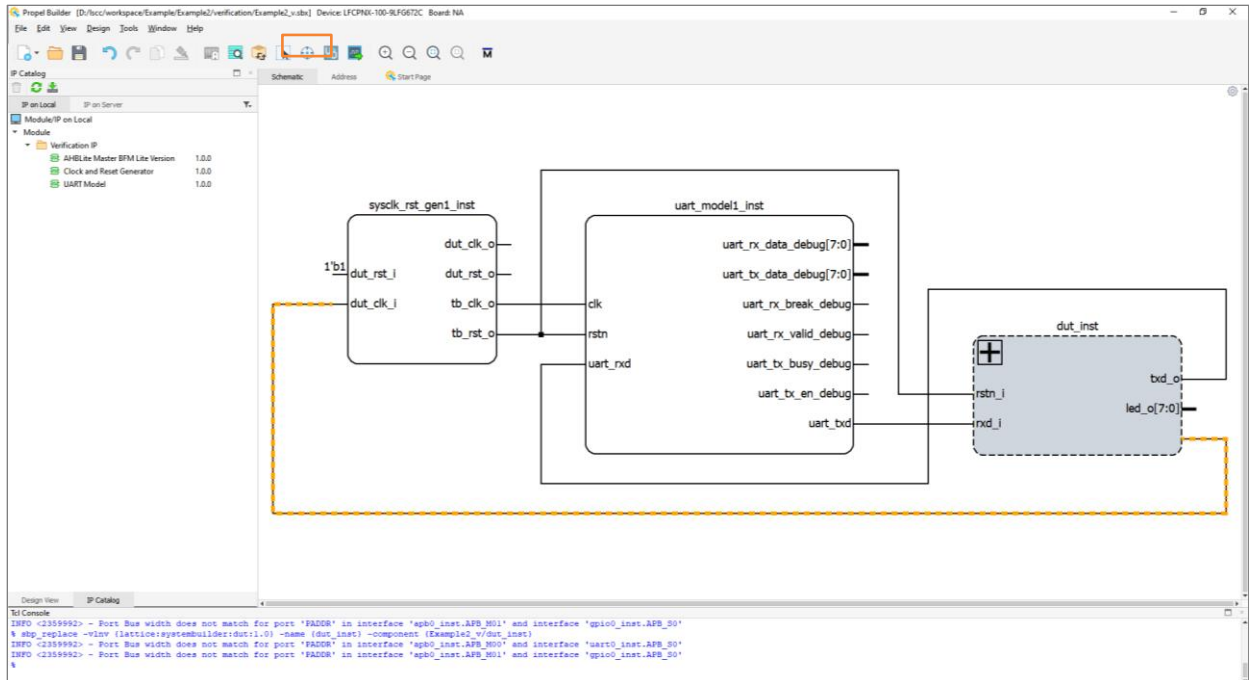

Figure 2.181. Verification Project
3. Click **Yes** to save the current design project. The Propel Builder GUI switches to verification project (Figure 2.181).
- If you want to go back and design more on SoC project, click **V/D** button  on the verification project window to go back to the SoC design project.(Figure 2.181)